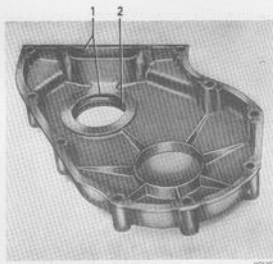

Fig. 2-47. Timing gear casing
4. Make sure that the gaskets are in good condition and that the drain hole is open and clean inside the timing gear casing which is to be fitted, see Fig. 2-47.
6. Center the casing with sleeve 2438, see Fig. 2-47. Turn the sleeve while tightening and adjust the position of the casing so that the sleeve is